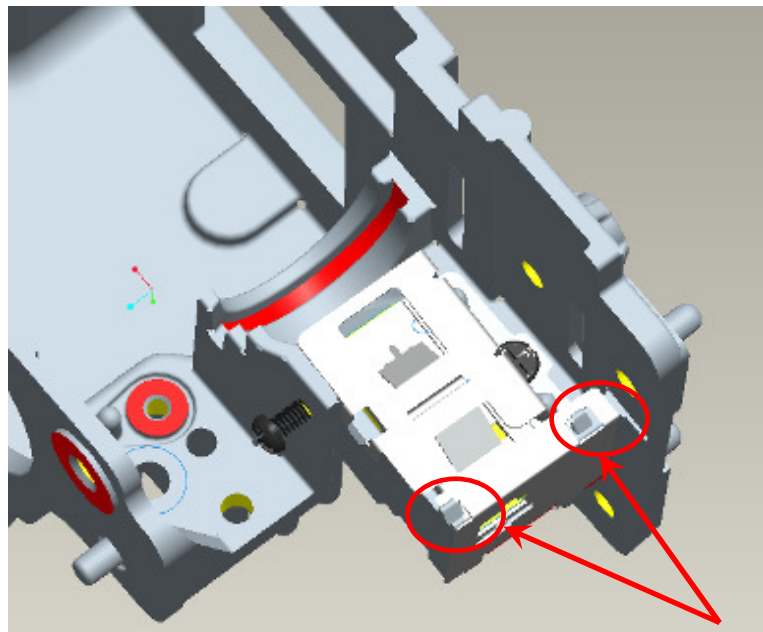
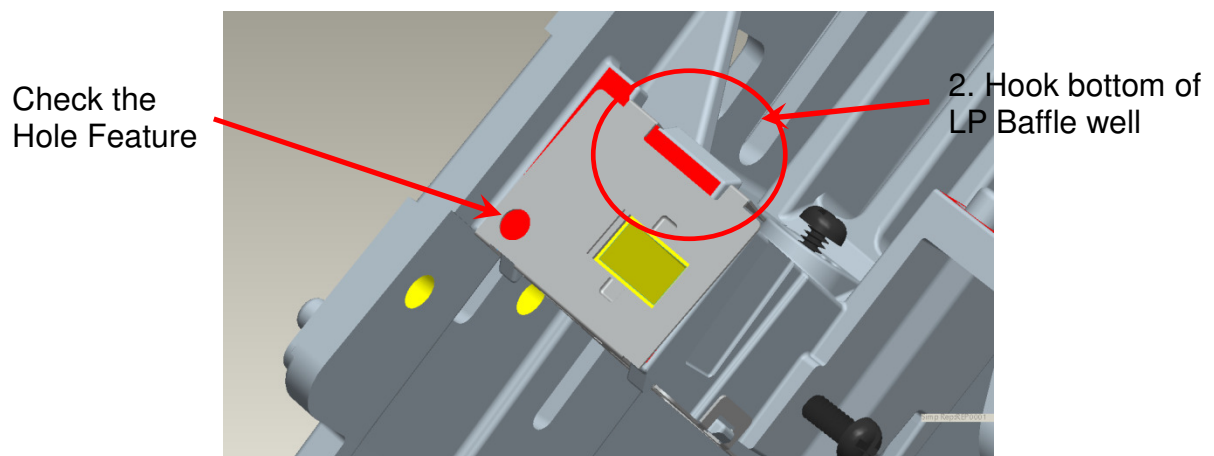

Fig. 1-14
Fig. 1-15
- (5) Assemble “Baffle LP”, Hook top of Baffle LP first (Fig. 1-14) & Hook bottom of Baffle LP to HSG DMD well (Fig. 1-15).